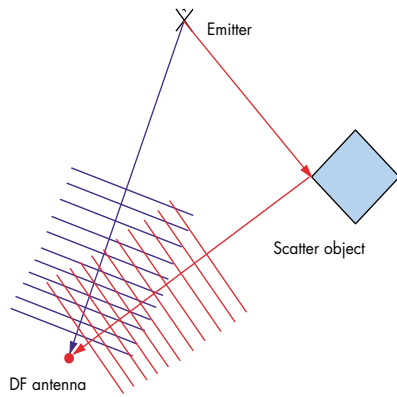

Fig. 30: Coherent secondary waves caused by reflection
- from secondary waves (caused by reflection, refraction, diffraction - see Fig. 30) (coherent in-channel interference)1)